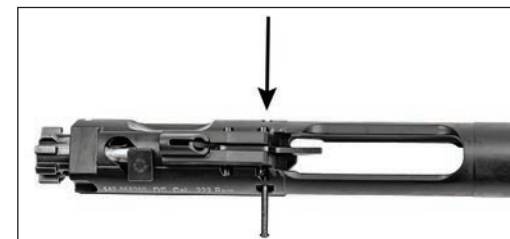

Fig. 19 – Drift out the Firing Pin Retaining Pin
- Push the firing pin retaining pin from right to left (Fig. 19).